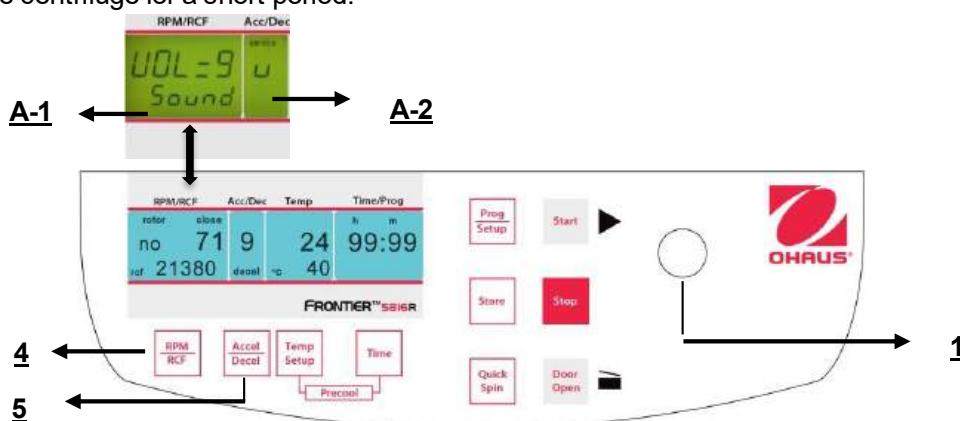

Figure 33
Proceed as described under point 4.1.1 to enter this program mode and then press the key **"Accel/Decel"** (5). In the display **"Acc/Dec"** (A-2) the word **"Service"** flashes. Now select the letter **"U"** with the adjusting knob (1). As a result, in the display **"RPM | RCF"** (A-1) the words **"Vol=0-9/Sound"** appear. After pressing the key **"RPM | RCF"** (4), you can adjust the desired volume between 0 (low) and 9 (loud) with the adjusting knob (1) (See figure 33).